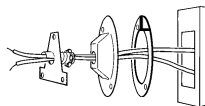

Fig. 3
Step 3: Screw the locknut (found in the hardware bag) onto the threaded end of the mounting plate adapter (G). Feed the supply wires from the house (coming through the lampholder mounting plate hole) through the mounting plate adapter hole (Fig. 3). The threaded end of the mounting plate adapter should be facing the lampholder mounting plate.